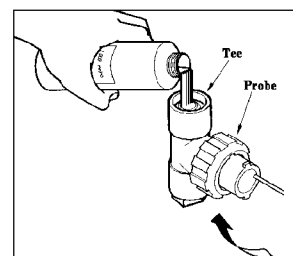

FIGURE 12
4. Close isolation valves and relieve pressure on the system by opening the sample valve. Remove and place sensor into the sample container with distilled or deionized water for a value of zero (0) to enter as the “LOW” calibration point in the following procedure (see fig. 12). If deposits or fouling is present, clean sensor per instructions in Section 10, Maintenance, pg. 50.